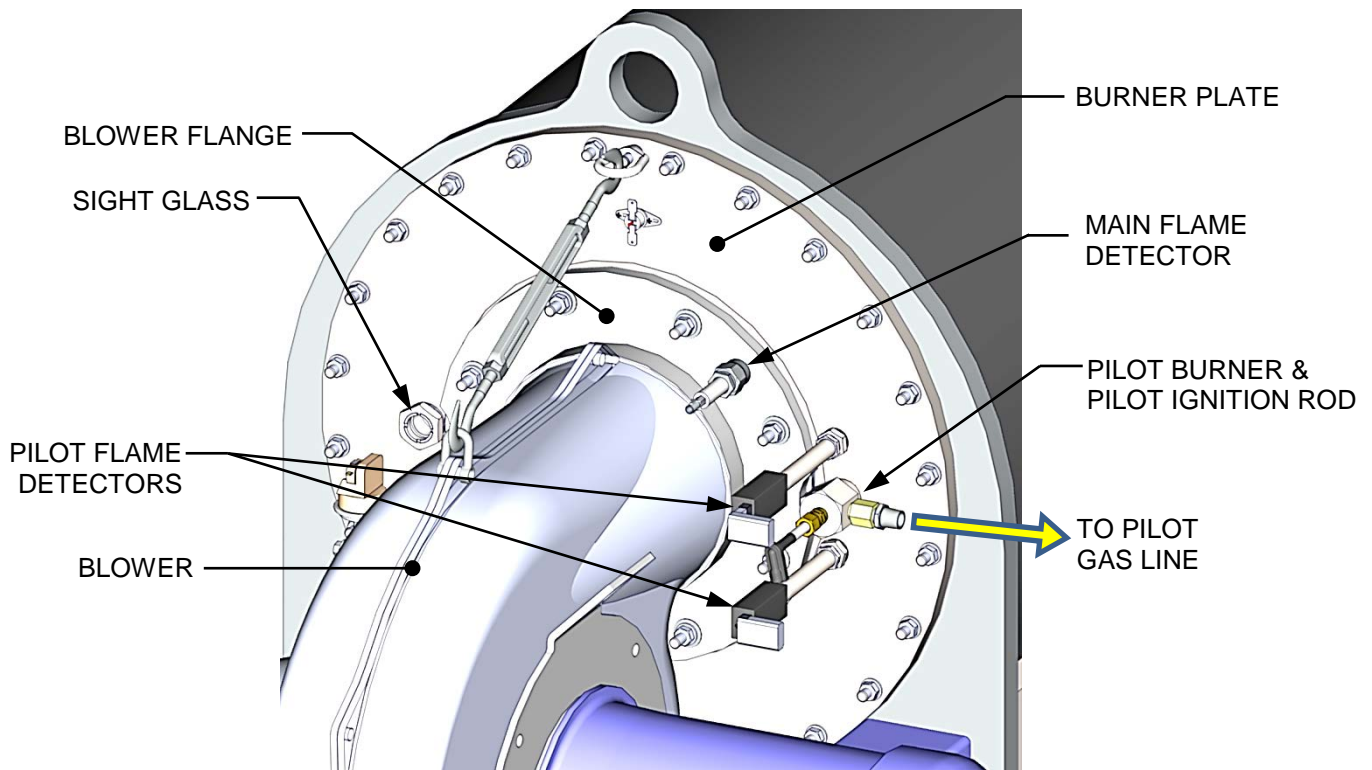
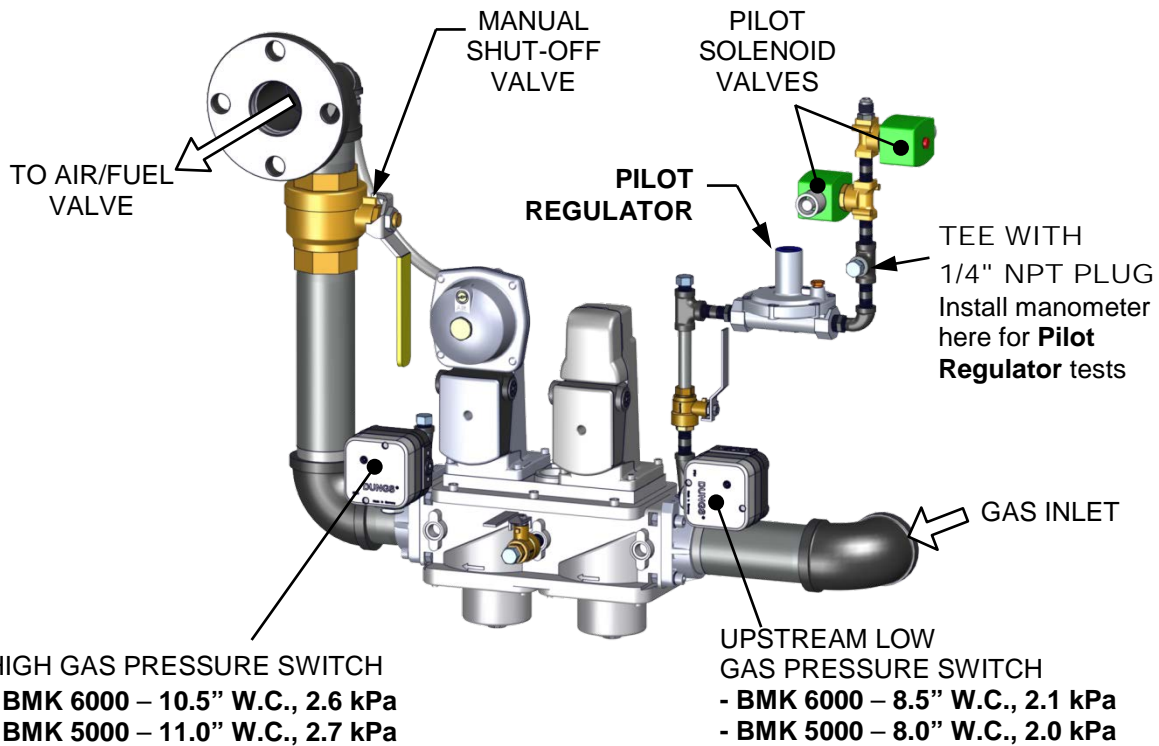
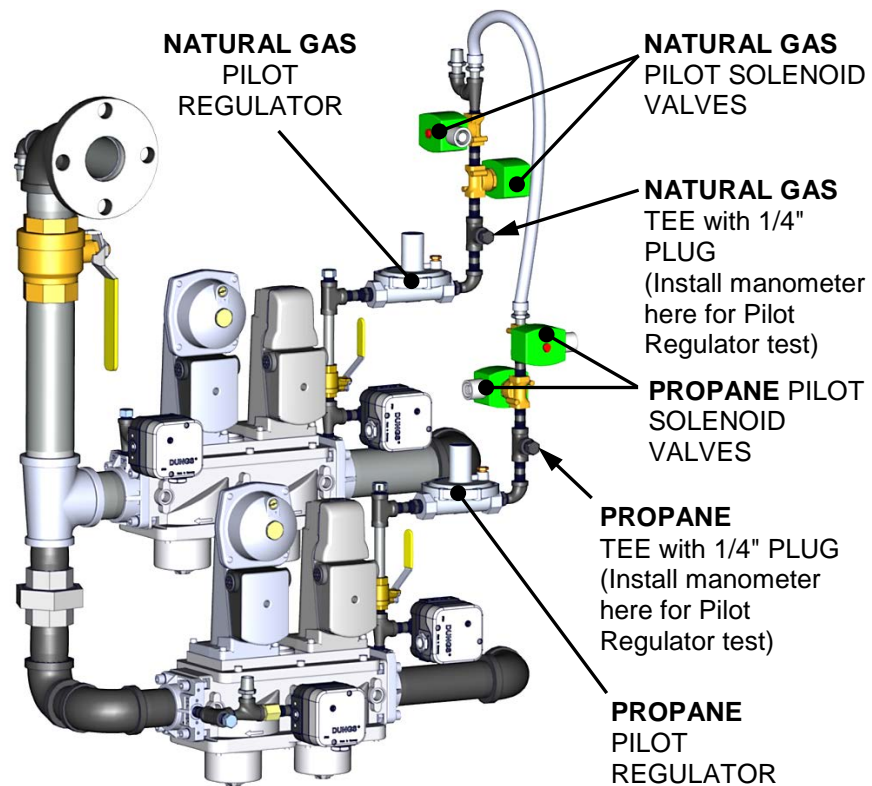

Figure 4-1a: Pilot Burner, Main & Pilot Flame Detector Mounting Locations
Figure 4-4a: BMK 5000/6000 Single Fuel Pilot Regulator Mounting Location
Figure 4-4b: BMK 5000/6000 Dual Fuel Pilot Regulator Mounting Location
The Pilot Burner (P/N **29700**) is located on the right-front of the Burner Plate. It contains an ignition cable, the Pilot gas line connected to the bushing, and the Pilot Burner Rod (P/N **66100**), which should be inspected and/or replaced according the schedule in Table 4-1a. Figure 4-1a shows the location of the Pilot Burner and related components.
3. Disconnect the ignition cable from the Pilot Burner (Figure 4-1a).
4. Using a 1/2" open-end wrench, disconnect the Pilot gas line from the reducer fitting and elbow shown in Figure 4-1a.
The Main Flame Detector (field replacement unit P/N **65182**) is located on the Blower Flange near the top of the unit (see Figure 4-1a, above). The Main Flame Detector may be hot. Allow the unit to cool sufficiently before removing the Main Flame Detector. Inspect or replace the Main Flame Detector as follows:
Benchmark 5000 & 6000 standard models feature one Pilot Regulator system in the Natural Gas gas train, while Benchmark 5000 & 6000 Dual Fuel units have two Pilot Regulator systems, one in the Natural Gas gas train (see Figure 4-4a) and one in the Propane gas train (see Figure 4-4b).
3. Remove the 1/4” NPT plug from the Tee on the outlet side of the Pilot Regulator (Figure 4-4a or Figure 4-4b) and insert a NPT-to-barbed adapter fitting.
5. Remove the cap from the Pilot Regulator to access the gas pressure adjustment. Rotate the regulator adjustment (beneath cap) clockwise (CW) to its highest possible pressure setting.
10. Pull out one of the Pilot Flame Detectors (see Figure 4-1a, above) and look into the observation port on the front plate. You should see the orange glow of the Pilot flame during the ignition trial period.
3. Remove the pipe plug from the 1/4" NPT port on the outlet side of the Pilot Regulator (Figure 4-4a or Figure 4-4b, above) and insert a NPT-to-barbed adapter fitting.
5. Remove the cap from the Pilot pressure regulator and rotate the regulator adjustment (beneath cap) clockwise (CW) to its highest possible pressure setting.
9. Pull one of the Pilot Flame Detectors out (see Figure 4-1a) and look into the port in the front plate. You should see the orange glow of the Pilot flame during the ignition trial period.